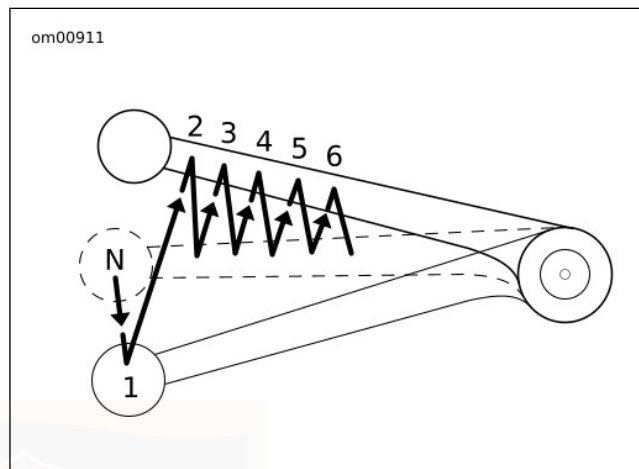

Figure 45. Shifting Sequence: Upshift
3. See Figure 45. Lift the gear shift lever up to the end of its travel and release.